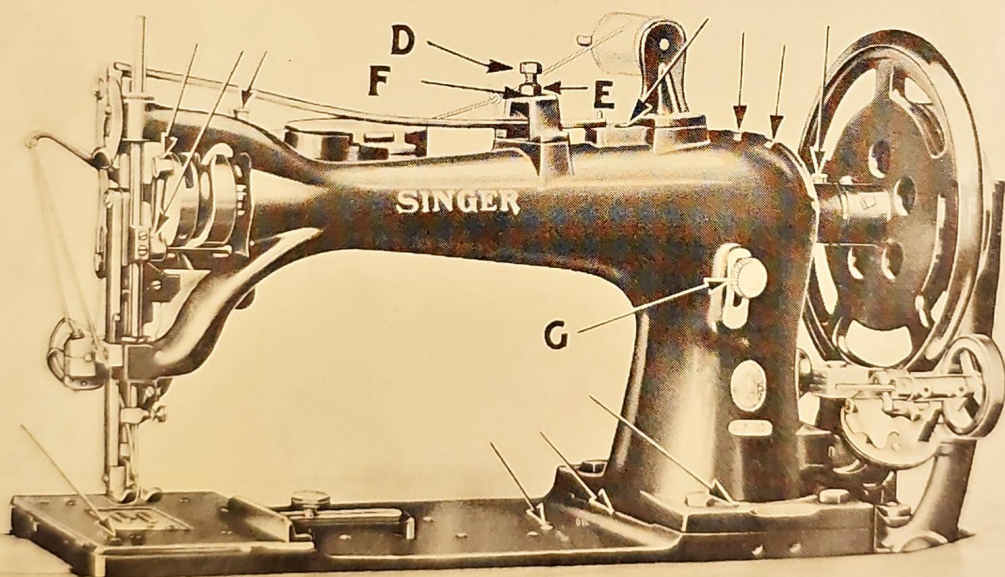

Fig.14. Oiling Points at Front of the Machine
The length of the stitch is regulated by the thumb screw (G, Fig.14) in the slot on the front of the upright part of the arm. To lengthen the stitch, loosen the thumb screw and move it downward. To shorten the stitch, loosen the thumb screw and move it upward. When the desired length of stitch is obtained, tighten the thumb screw.
The pressure on the material is regulated by means of the hexagon head screw (D, Fig.14). Loosen the hexagon head lock nut (E, Fig.14) and turn the screw (D) to the right to increase the pressure, or to the left to decrease the pressure. When the desired pressure has been obtained, hold the screw (D) with a wrench to keep it from turning while the lock nut (E) is being tightened against the bracket (F).
dicated in Figs. 14 and 15 by arrows pointing to the oil holes and bearings. Oil should be regularly applied to the shuttle race, also in the hole in the hub of the friction driving pulley.